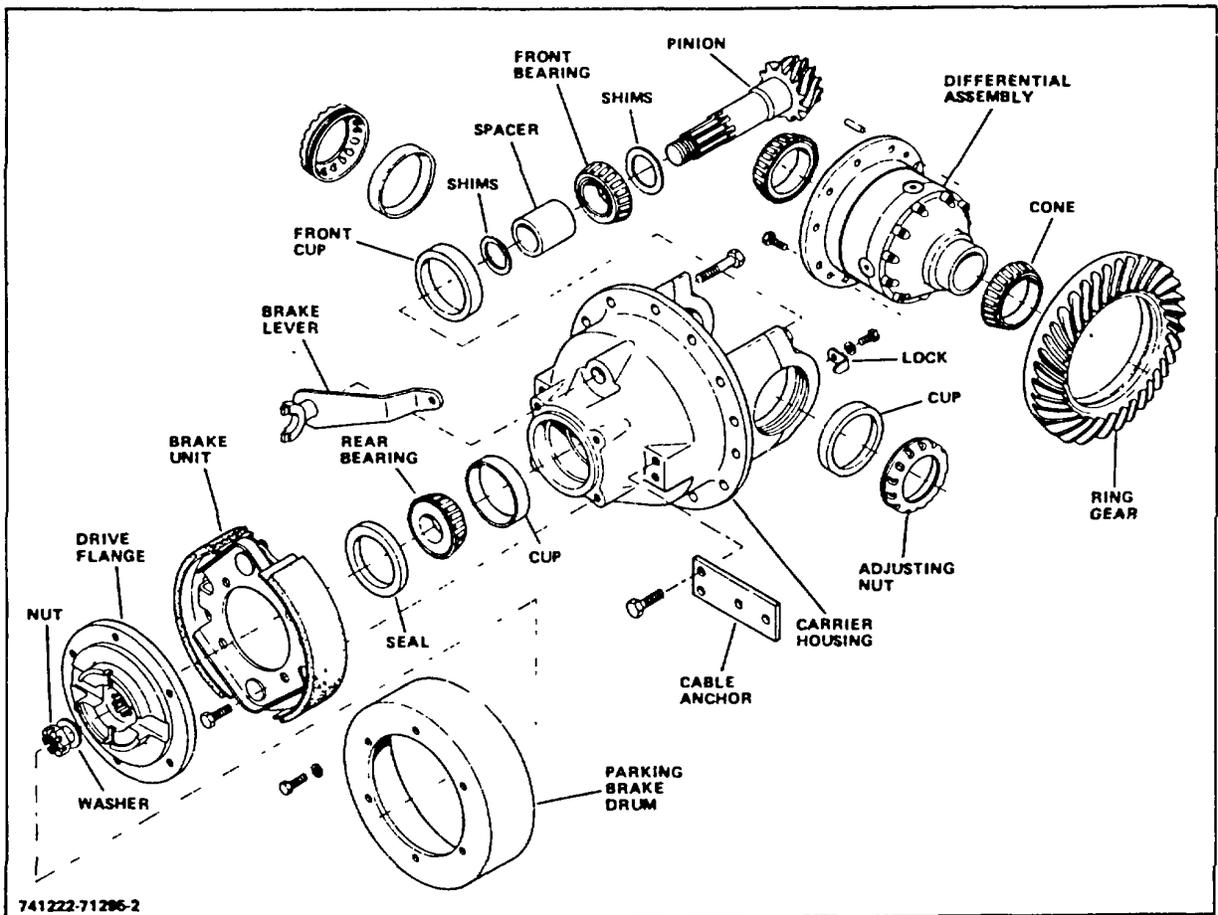

Figure 3-3. Differential Carrier Assembly Components
- b. Remove nut (Fig 3-3), washer, and drive flange from splined end of pinion.